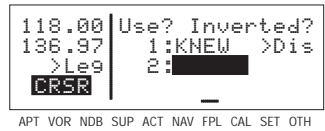

Figure 4-100
- Press **[ENT]** again to approve the waypoint page being displayed. The cursor will move automatically to the second waypoint position (figure 4-100).